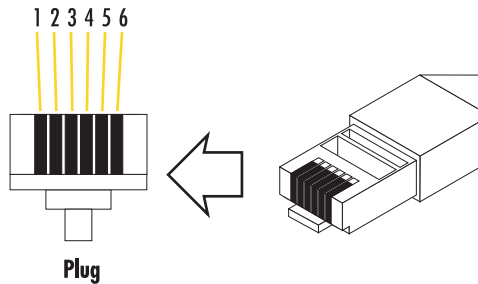

Figure 11. RJ-45 plug
2. Connect the WAN cable RJ-45 connectors (see figure 11) to the corresponding ports on a patch panel or local T1/E1 device.